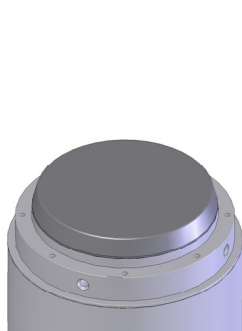

Figure 1
1. Clean and degrease the Cover, Ceramic Support, Ceramic Retaining Ring (C) and Ceramic Disc (A).
2. Lightly grease the O-ring (D) and place in the groove on the top of the Ceramic Support.
3. Rest the Ceramic Disc (A) centrally on the O-ring (Figure 1).
4. Place the Retaining Ring (C) over the Ceramic Disc (A). Apply a small amount of low strength thread-lock (e.g. Loctite 222) to 8 screws (D).